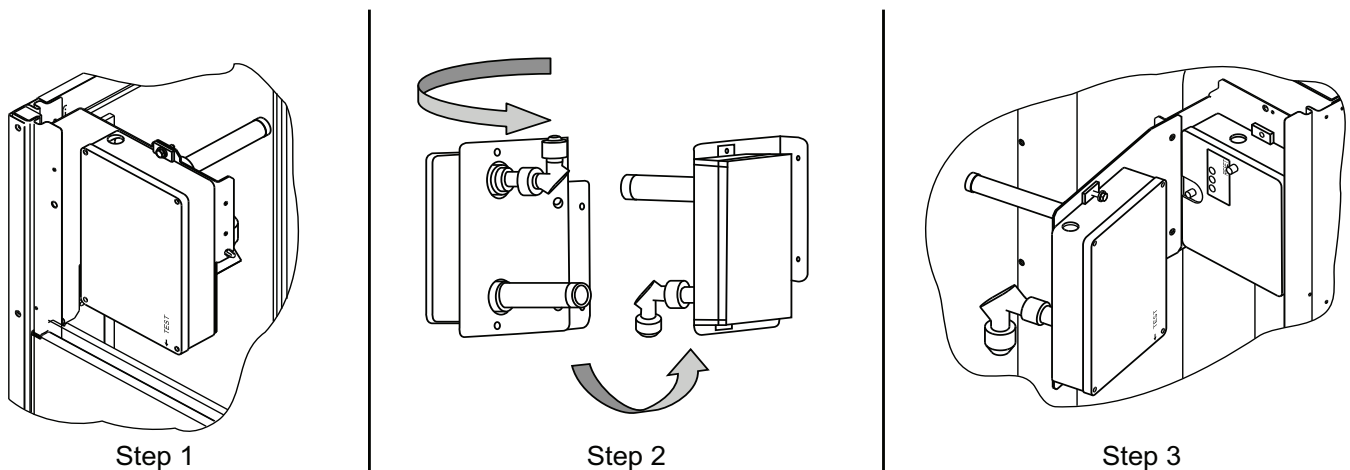

Fig. 52 — Completing Installation of Return Air Smoke Sensor
1. Unscrew the 2 screws holding the Return Air Smoke Detector assembly. See Fig. 52, Step 1. Save the screws.
2. Turn the assembly 90 degrees and then rotate end to end. Make sure that the elbow fitting is pointing down. See Fig. 52, Step 2.
3. Screw the sensor and detector plate into its operating position using screws from Step 1. See Fig. 52, Step 3.